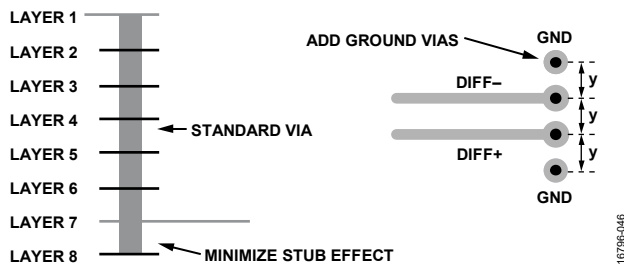

Figure 94. Minimizing Stub Effect and Adding Ground Vias for Differential Stripline Traces
- If using standard vias, use the maximum via length to minimize the stub size. For example, on an 8-layer board, use Layer 7 for the stripline pair (see Figure 94).
- For each via pair, place a pair of ground vias adjacent to them to minimize the impedance discontinuity (see Figure 94).